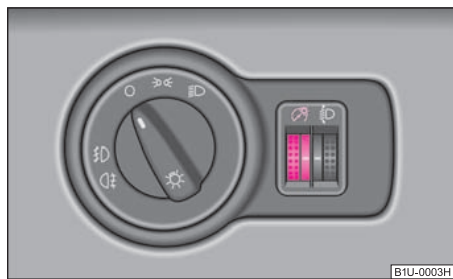

Fig. 47 Dash panel: Instrument lighting
- Turn the control dial ⇒ fig. 47 to the desired intensity of the instrument lighting. ■